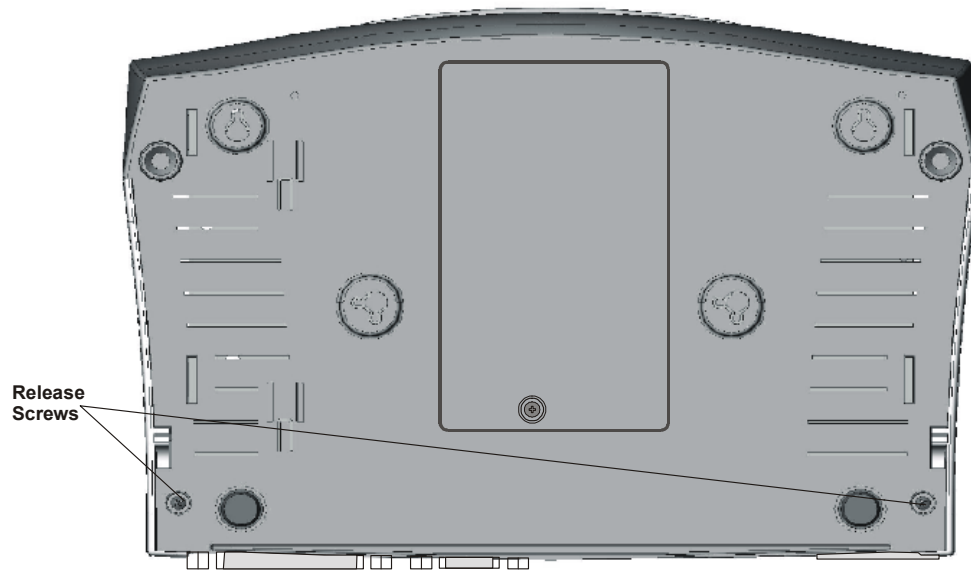

Figure 2-3. FCD-E1LC Cover Screws
1. Refer to Figure 2-3 and open the screws that fasten the FCD-E1LC cover. Keep screws in a safe place, for reuse.
3. Refer to Figure 2-3 and fasten the cover with its screws.